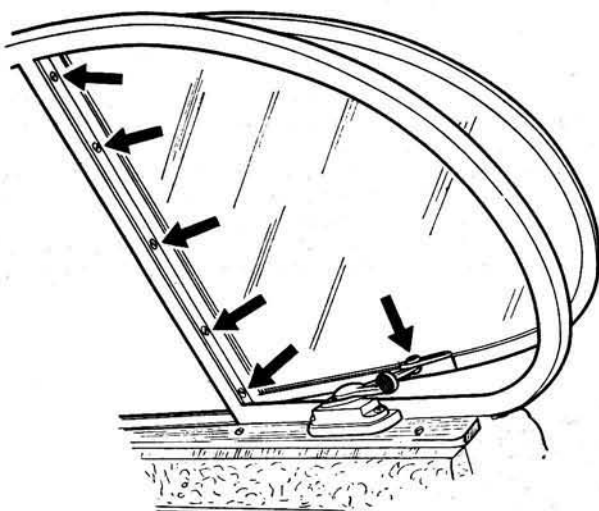

Fig.12.12. Location of screws securing the rear no draught ventilator
- 4 Refer to Fig.12.12 and take out the five screws which secure the ventilator hinge to the window frame.